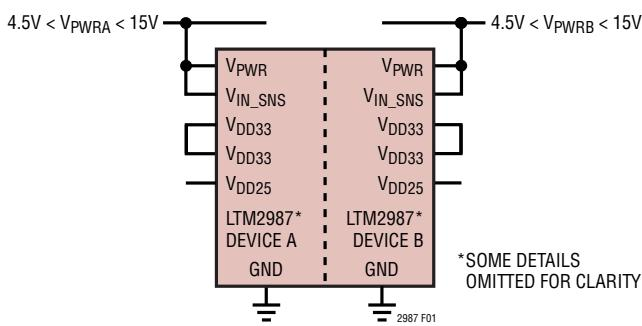

Figure 1. Powering LTM2987 Directly from an Intermediate Bus
The LTM2987 can be powered two ways. The first method requires that a voltage between 4.5V and 15V be applied to the V_PWR pin. See Figure 1. Internal linear regulators convert V_PWR down to 3.3V which drives all of the internal circuitry in each device. Do not tie the VDD33(A) and VDD33(B) pins together since each half of the LTM2987 has independent voltage regulators.